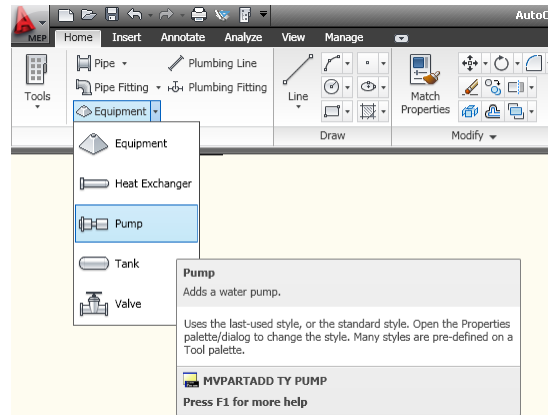

Figure 6.33
2. On the Home tab, on the Build panel, click the Equipment drop-down and then select the **Pump Control** (see Figure 6.33).